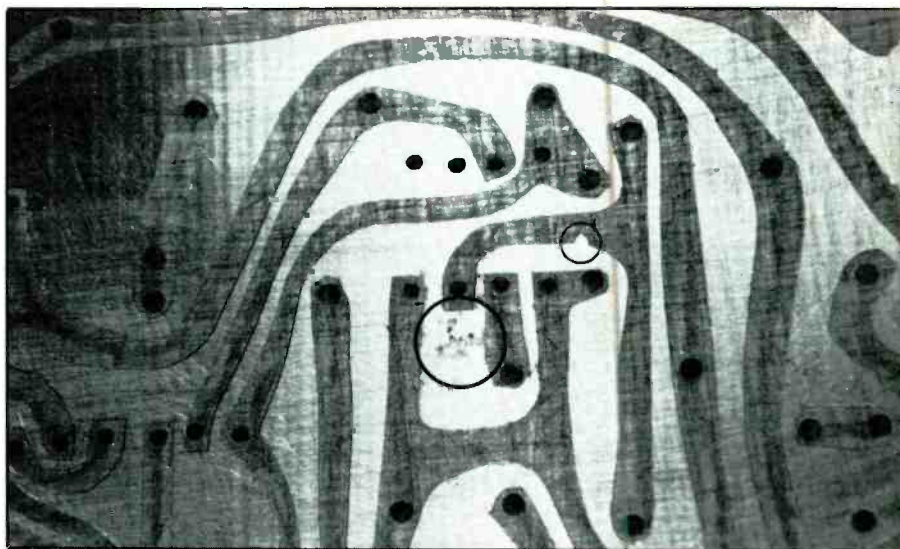

*Fig. 3. Carefully following original artwork, conductor pattern is drawn on self-adhering plastic sheet with a soft lead pencil.*
• *Step 4.* When you are finished drawing the copper-trace pattern (see Fig. 3), compare it point for point against the original artwork—for both sides of the blank if you are making a double-sided board. If you discover any errors at this point, correct them immediately. Then, when you are satisfied that everything is okay, use a very sharply pointed hobby knife to score the plastic around every drawn trace down to the copper surface(s). Think of each trace as an elongated circle. Before you do this, however, it is a good idea to practice on a scrap plastic-clad board. Spacing between cuts, working around IC pad locations and the amount of cutting pressure are the only difficult—but easily mastered—parts of this simple pc-board-making procedure.